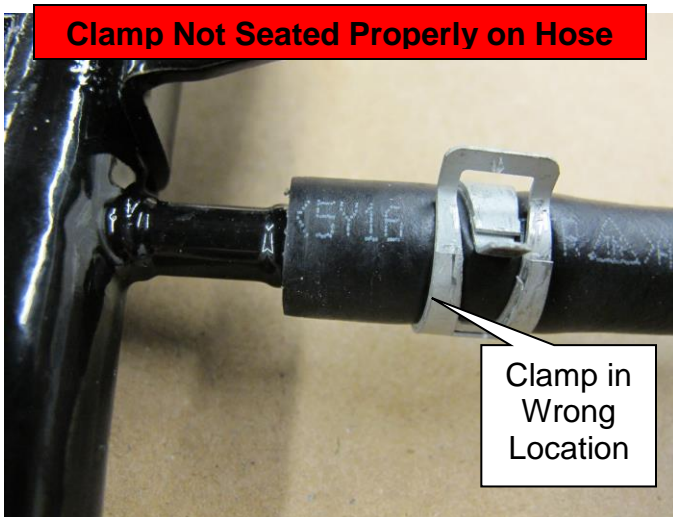

Figure 16
- Clamp not seated properly on hose (Too close to barb lip) (Figure 16).